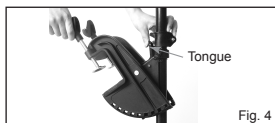

Fig. 4
1. Press the tongue to adjust the angle of the bracket. (See Fig. 4)